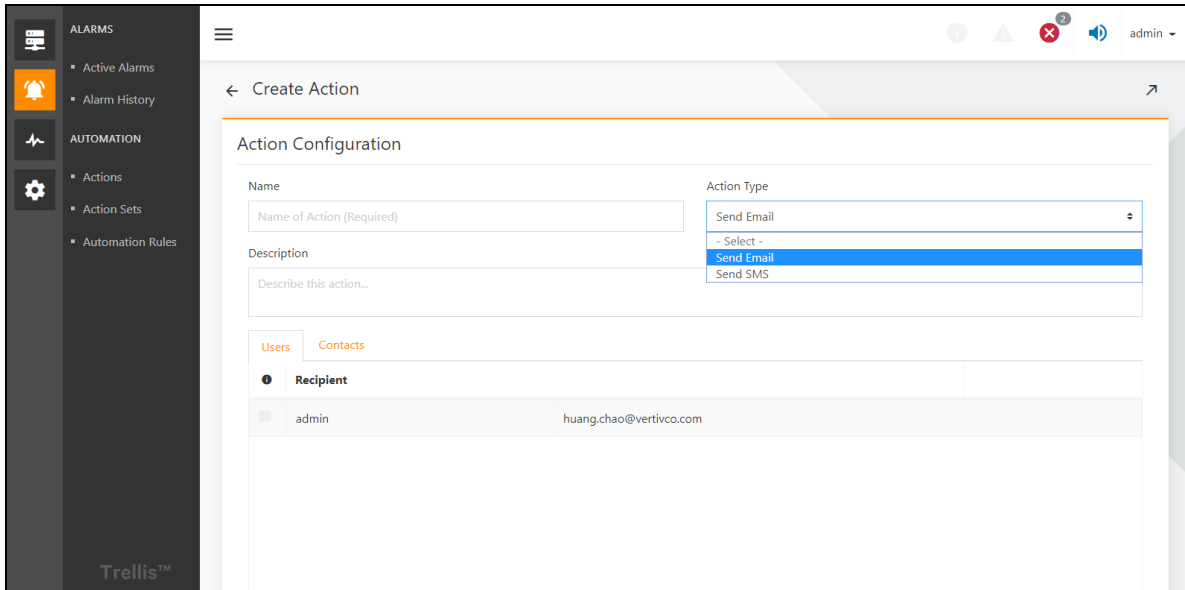

Figure 7.17
2. Click on add icon  to enter the create Action interface, as shown in **Figure 7.17** on the facing page . Enter the following information: name, action type (send a text message or email), description (optional), and recipient. The recipient can select an admin user, or the contact that the user adds to the contacts. Users can select multiple recipients.